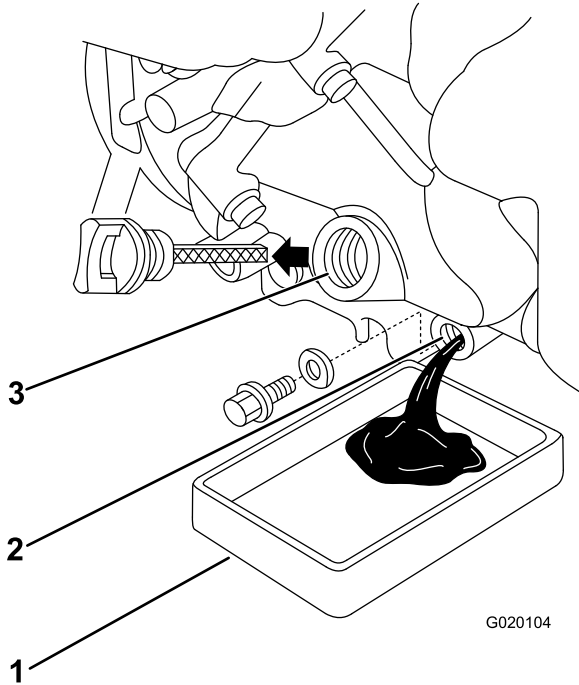

Figure 19
5. Remove the drain plug and drain the oil from the engine (Figure 19).
7. Remove the dipstick and slowly pour approximately 80 percent of the specified amount of oil into the engine (Figure 19).